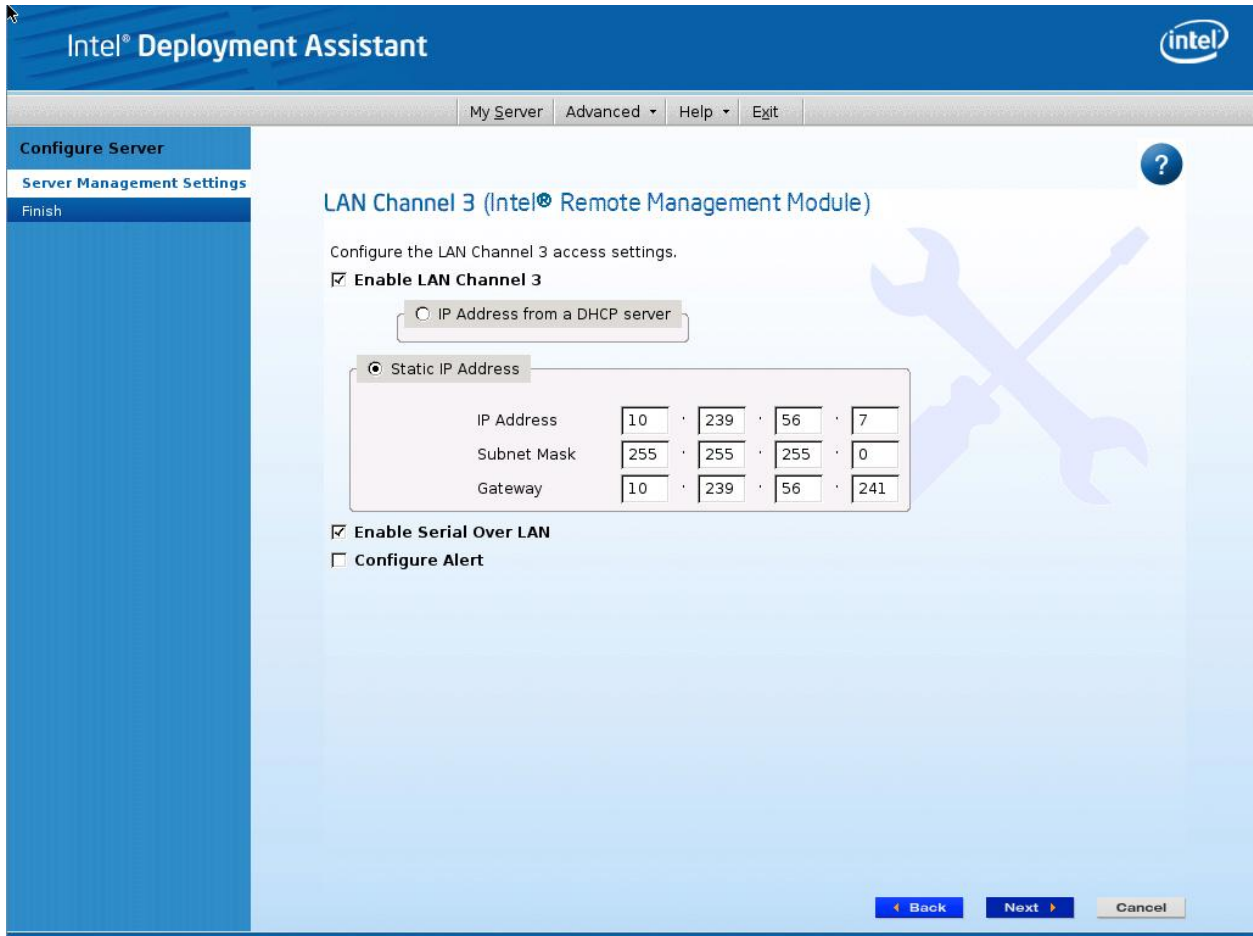

Figure 24: IDA Configure Server: Configure LAN Channel 3 (Intel® RMM4 DMN) Static IP Address window
- b. If **Static IP Address** is selected configure the **IP address**, **Subnet Mask** and **Gateway** as shown in Figure 24.